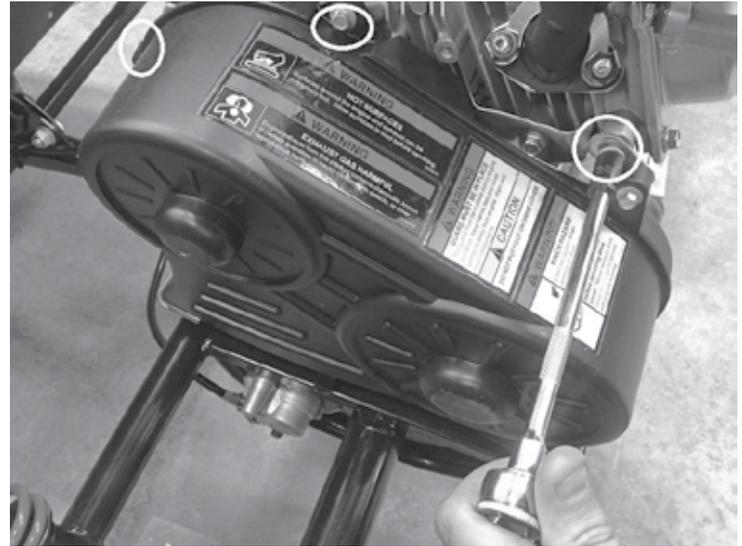

fig. 1
Remove the belt guard from the vehicle by removing the (3) perimeter bolts using the 8mm socket and ratchet, and the phillips head screw at the rear of the cover. Ref Fig 1.